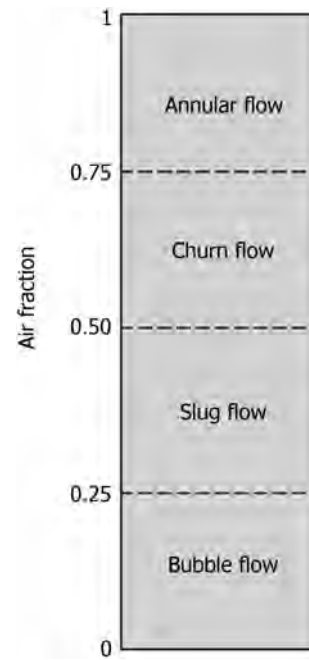

FIGURE 7.4 Flow pattern as a function of fraction of air in air–water flow in a vertical pipe.
- Vapor fraction in the two-phase mixture determines the flow patterns as illustrated in Figure 7.4.